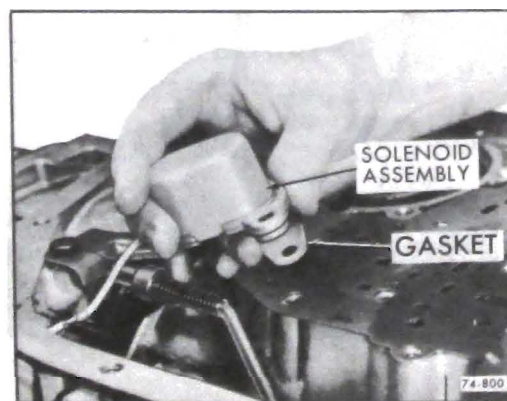

Figure 76-773
9. Install solenoid gasket. See Figure 76-773.